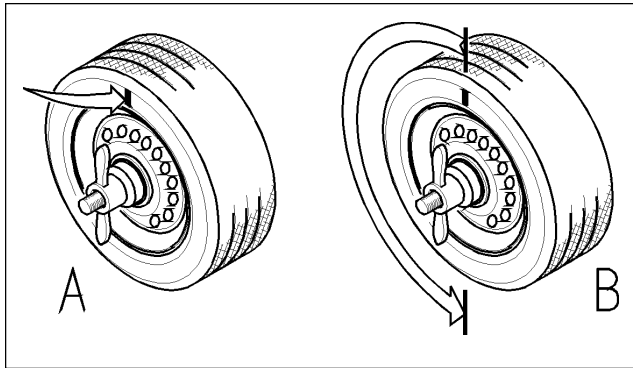

Fig.58
**C.** Mark the tire in line with the valve stem. (Fig.58 #A), which is usually on the outer plane of the wheel.
Deflate tire and rotate the tire 180 degrees on the rim (the mark on the tire and the valve shall be at 180 degrees) (Fig.58 #B). Inflate tire to the right pressure **respecting all safety precautions**.
**D.** Mark the tire in line with valve stem (Fig.58 #A), which is usually on the outer plane of the wheel.